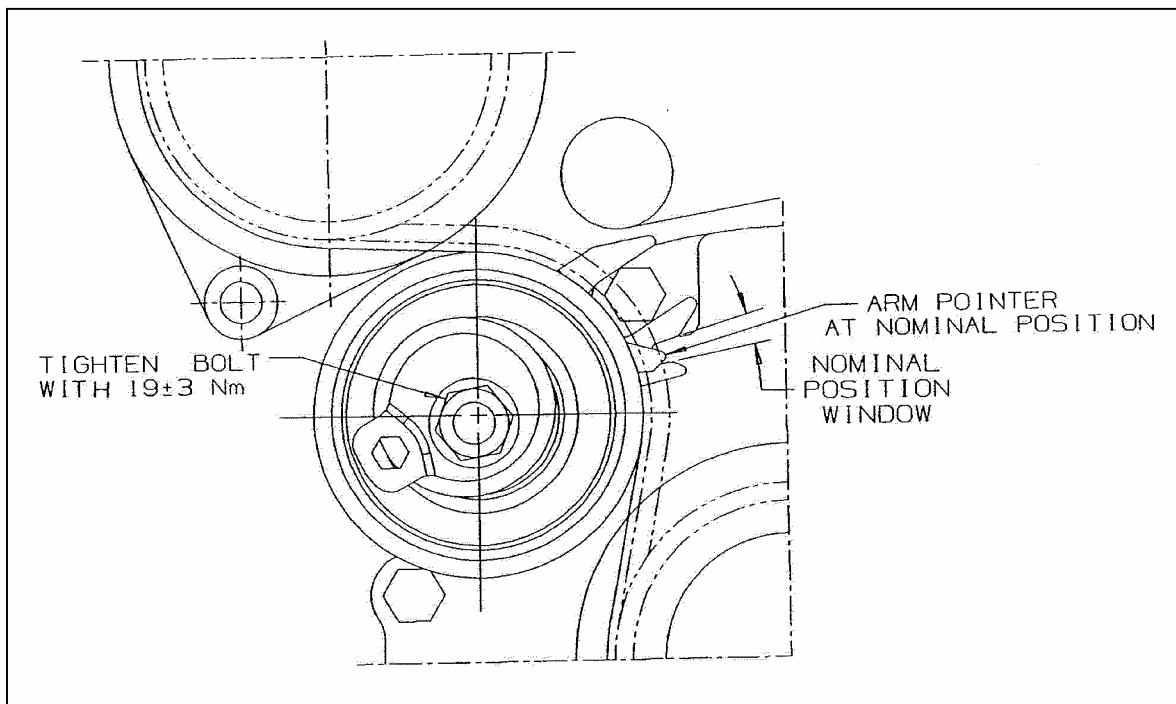

Figure 4: Final Installation
7. Continue rotating the Installation Shaft Washer until the Arm Pointer is positioned within the Nominal Position Window on the base plate, then lock the tensioner in this position by tightening the Mounting Bolt with **19±3 Nm** of torque (See Figure 4).